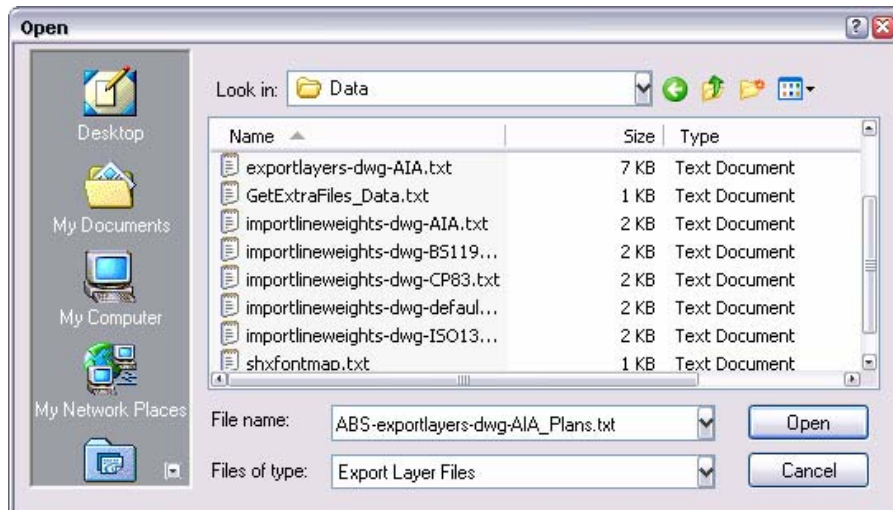

Figure 5
- Select an appropriate layering convention (could also be a copied Export Layer File), perhaps one that adheres to AIA layer naming conventions but is used just for exporting to AutoCAD MEP and all layers are set to gray (Color ID 8). See example in Figure 5, "ABS-exportlayers-dwg-AIA_Plans".